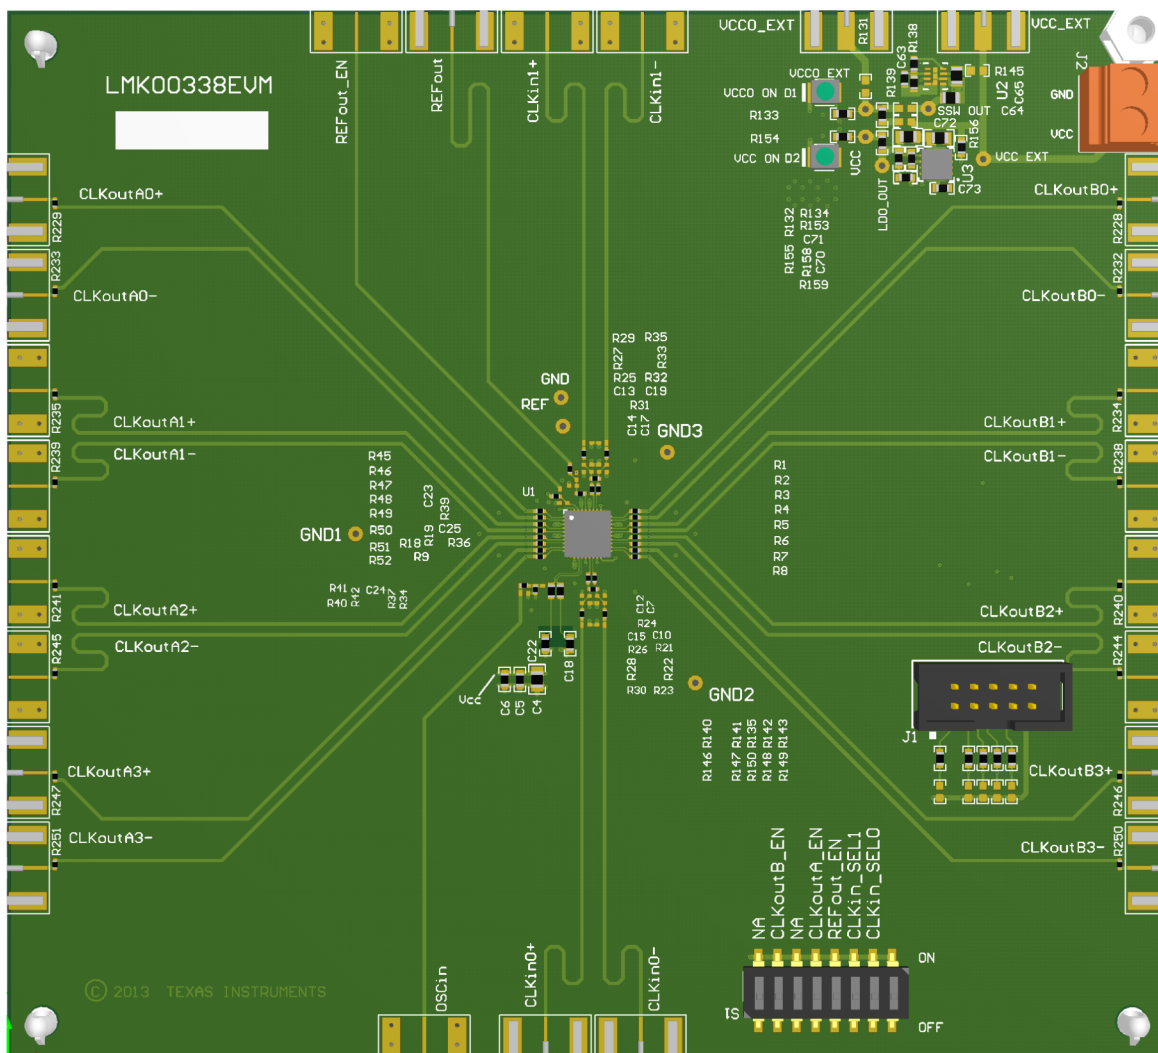

Figure 22. LMK00334 Layout Example
- For DC coupled operation of an HCSL driver, terminate with $50\ \Omega$ to ground near the driver output as shown in Figure 22.